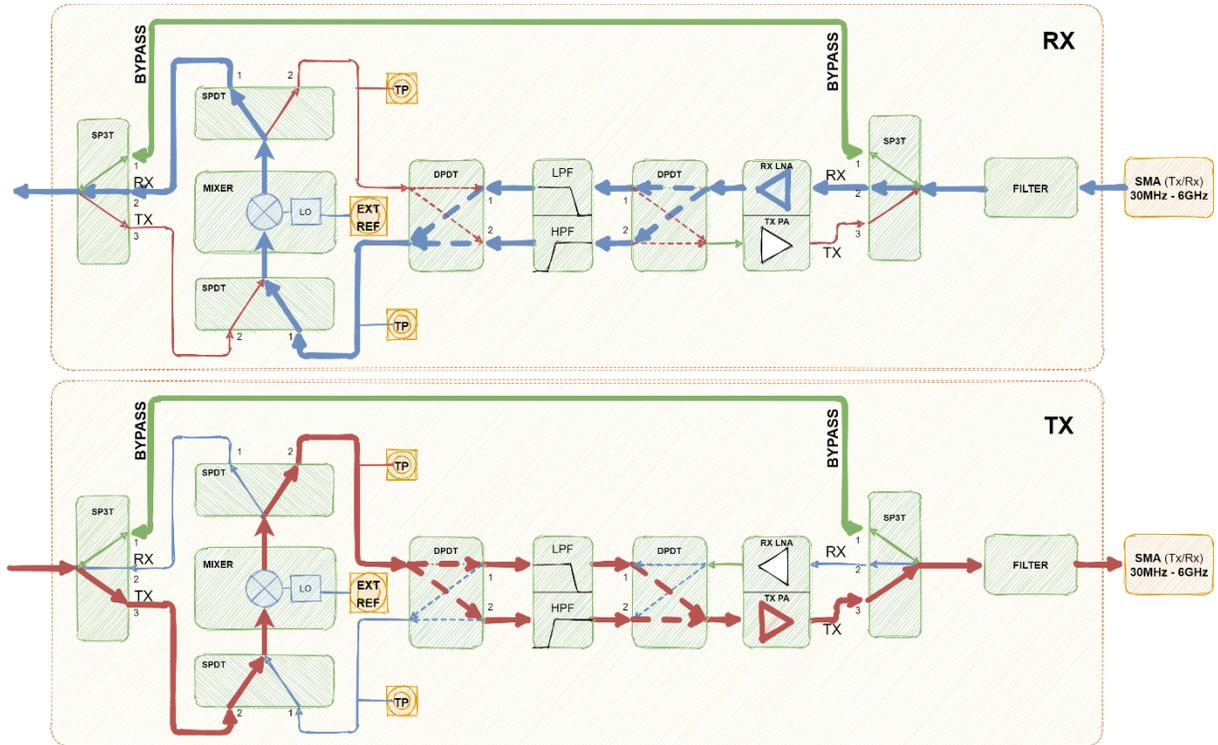

Figure 7 CaribouLite RF frontend
The CaribouLite 6GHz version, on the other hand, connects the 2.4GHz channel to an up/down-converter circuit that allows it tune up to 6 GHz and down to 30 MHz as shown in Figure 7. The figure shows five possible RF paths – (1) Bypass, (2) RX up conversion, (3) RX down conversion, (4) TX up conversion, and (5) TX down conversion.